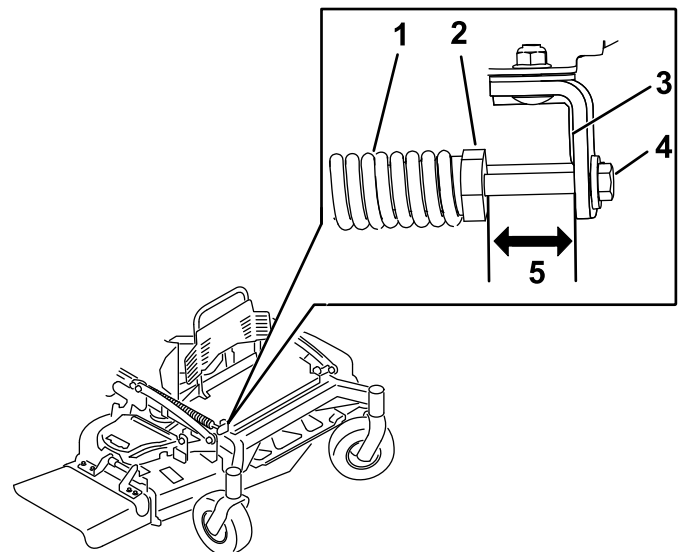

Figure 86
- Check the distance between the spring nut and the rear side of the welded mount bracket (Figure 86).
- Ensure that the length is 51mm (2 inches) for 48/52in decks, and 38mm (1.5 inches) for 60in decks as shown in Figure 86.
- If needed, adjust the distance by adjusting the bolt on the front of the mount bracket (Figure 86).